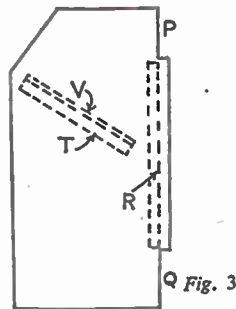

Fig. 3
Next, the sides can be made. The shape of these is seen in Fig. 3. First saw out the rectangle, then attend to the corner shapes. The cut-outs at the back edge are to accommodate the cross boards (P) and (Q) (seen in later drawings). The dotted lines indicate the positions, first, of the battens on which the detachable back board will rest, and, secondly, the battens and baseboard on which the radio chassis will sit. These are referred to respectively as (R), and (T) and (V).